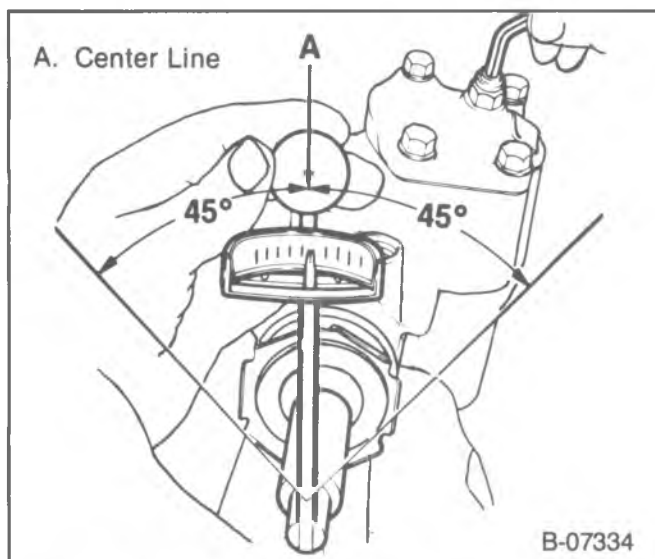

Figure 20—Checking Over-Center Rotational Torque
4. Place the torque wrench, in the vertical position, on the stub shaft. Rotate the torque wrench 45 degrees each side of the center and record the highest drag torque measured on or near center (figure 20).